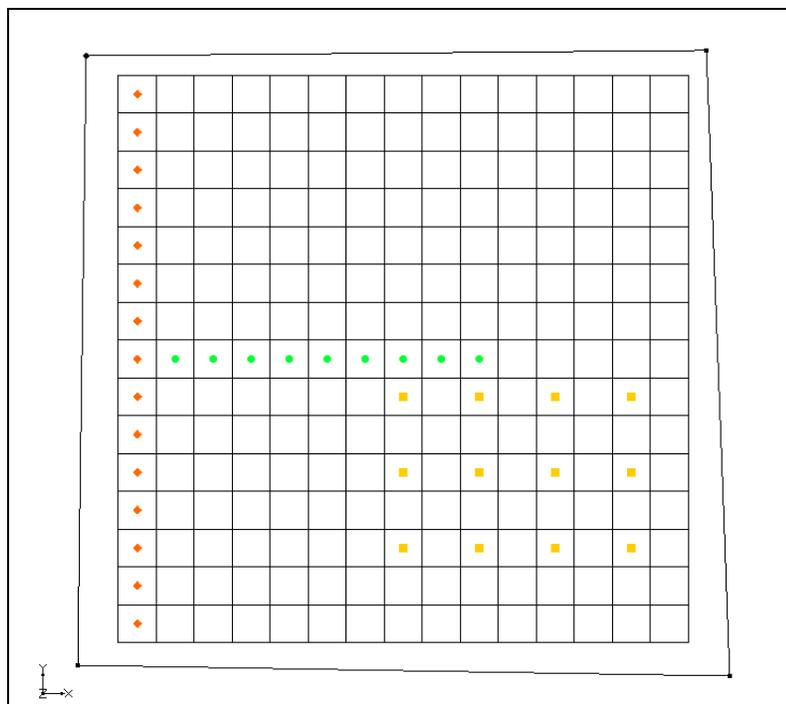

Figure 4 Creating a polygon that encompasses the model grid
2. Create an arc that surrounds the grid. End the arc on the starting point by double-clicking in order to form a closed polygon, as shown in Figure 4.